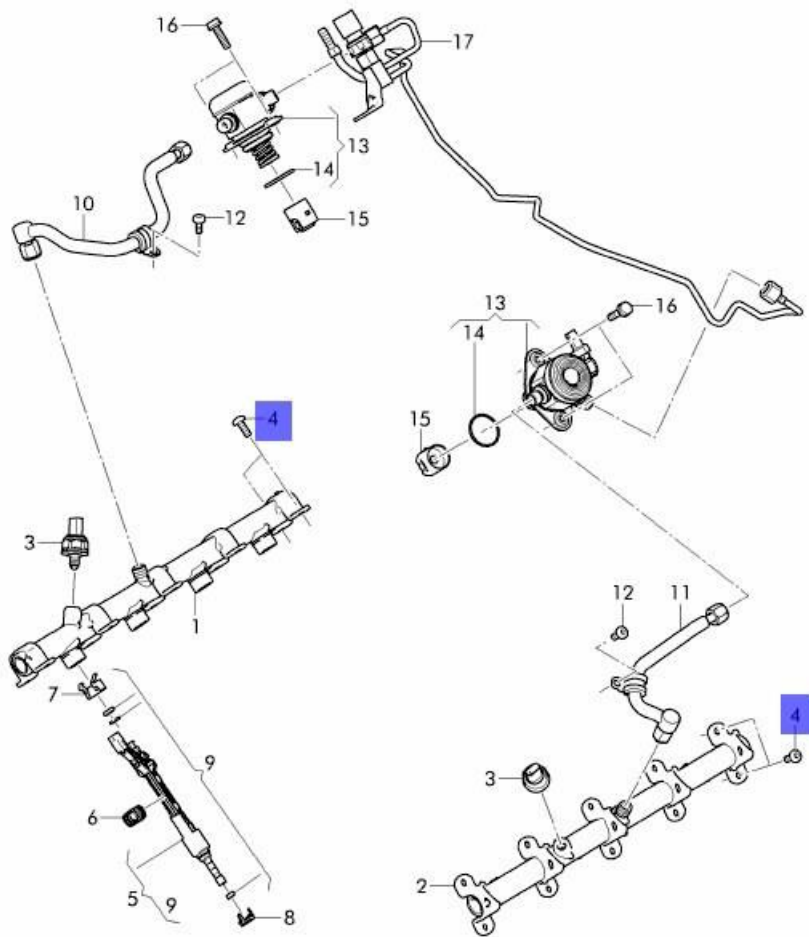

Figure 2
- Fuel rail fixings - Figure 2 (Item 4 - Quantity of 20 in total)